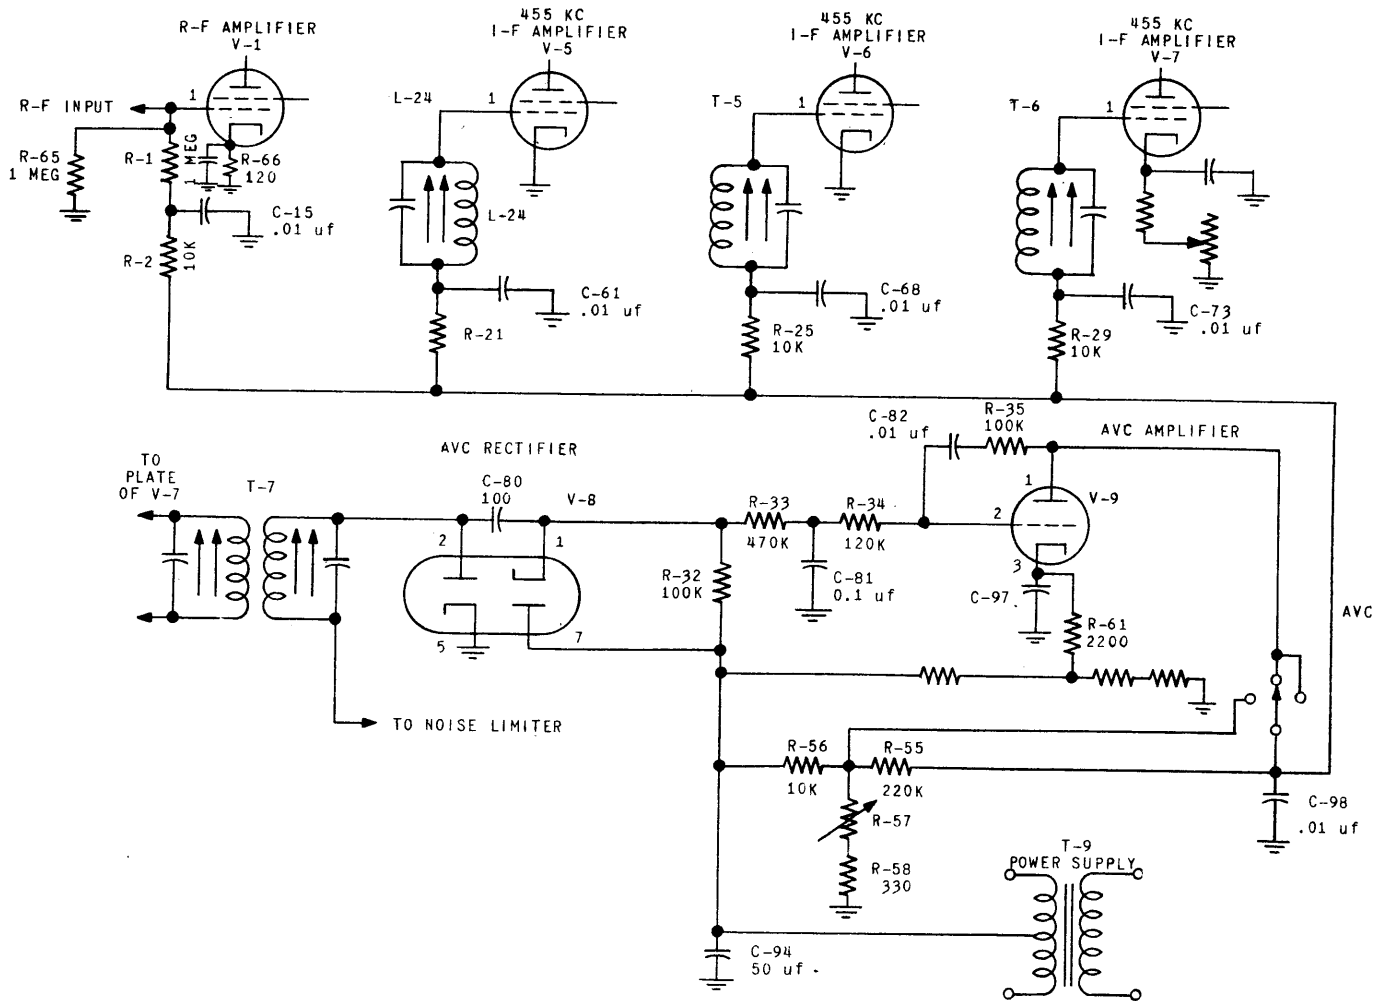

FIGURE 4-4 AVC CIRCUIT
4.5.6. AUTOMATIC VOLUME CONTROL - The problem of blocking due to strong signals or heavy static is reduced by the use of an amplified AVC system and a low impedance AVC line. Refer to figure 4-4. The second triode section of V-8 is used as an AVC rectifier to produce the control voltage for the AVC section of amplifier tube V-9. The AVC voltage applied to the grids of the controlled tubes is produced by the voltage drop across resistor R-55 when plate current flows through the AVC amplifier tube V-9. Plate voltage for V-9 is obtained from the voltage drop across resistors R-36, R-37 and R-38 which are in series with the center tap of the power transformer to ground. V-9 will not draw plate current, however, with no signal input to the receiver because of approximately 11 volts of bias placed upon its grid by the voltage drop through R-36. This bias voltage for V-9 is taken from the end of R-32 through which the rectified carrier flows in opposition to the bias voltage. Thus, when the rectified carrier becomes strong enough to overcome the bias voltage on V-9, V-9 will draw plate current and produce a voltage drop across R-55 thereby producing AVC voltage in proportion to the strength of the received signal. The bias on the grid of V-9 is high enough to produce adequate delay in the generation of AVC voltage to allow the receiver to function with full sensitivity on weak signals. Resistor R-33 and capacitor C-81 form the time constant in the AVC circuit. R-34 and C-82 and R-35 are used in a degenerative circuit to prevent the AVC amplifier tube from responding to low audio frequency. The AVC is turned off by opening the plate circuit of the AVC amplifier tube V-9. Tubes controlled by the AVC bias included V-1, the RF amplifier, V-5, V-6 and V-7, the 455 kc IF amplifier tubes.